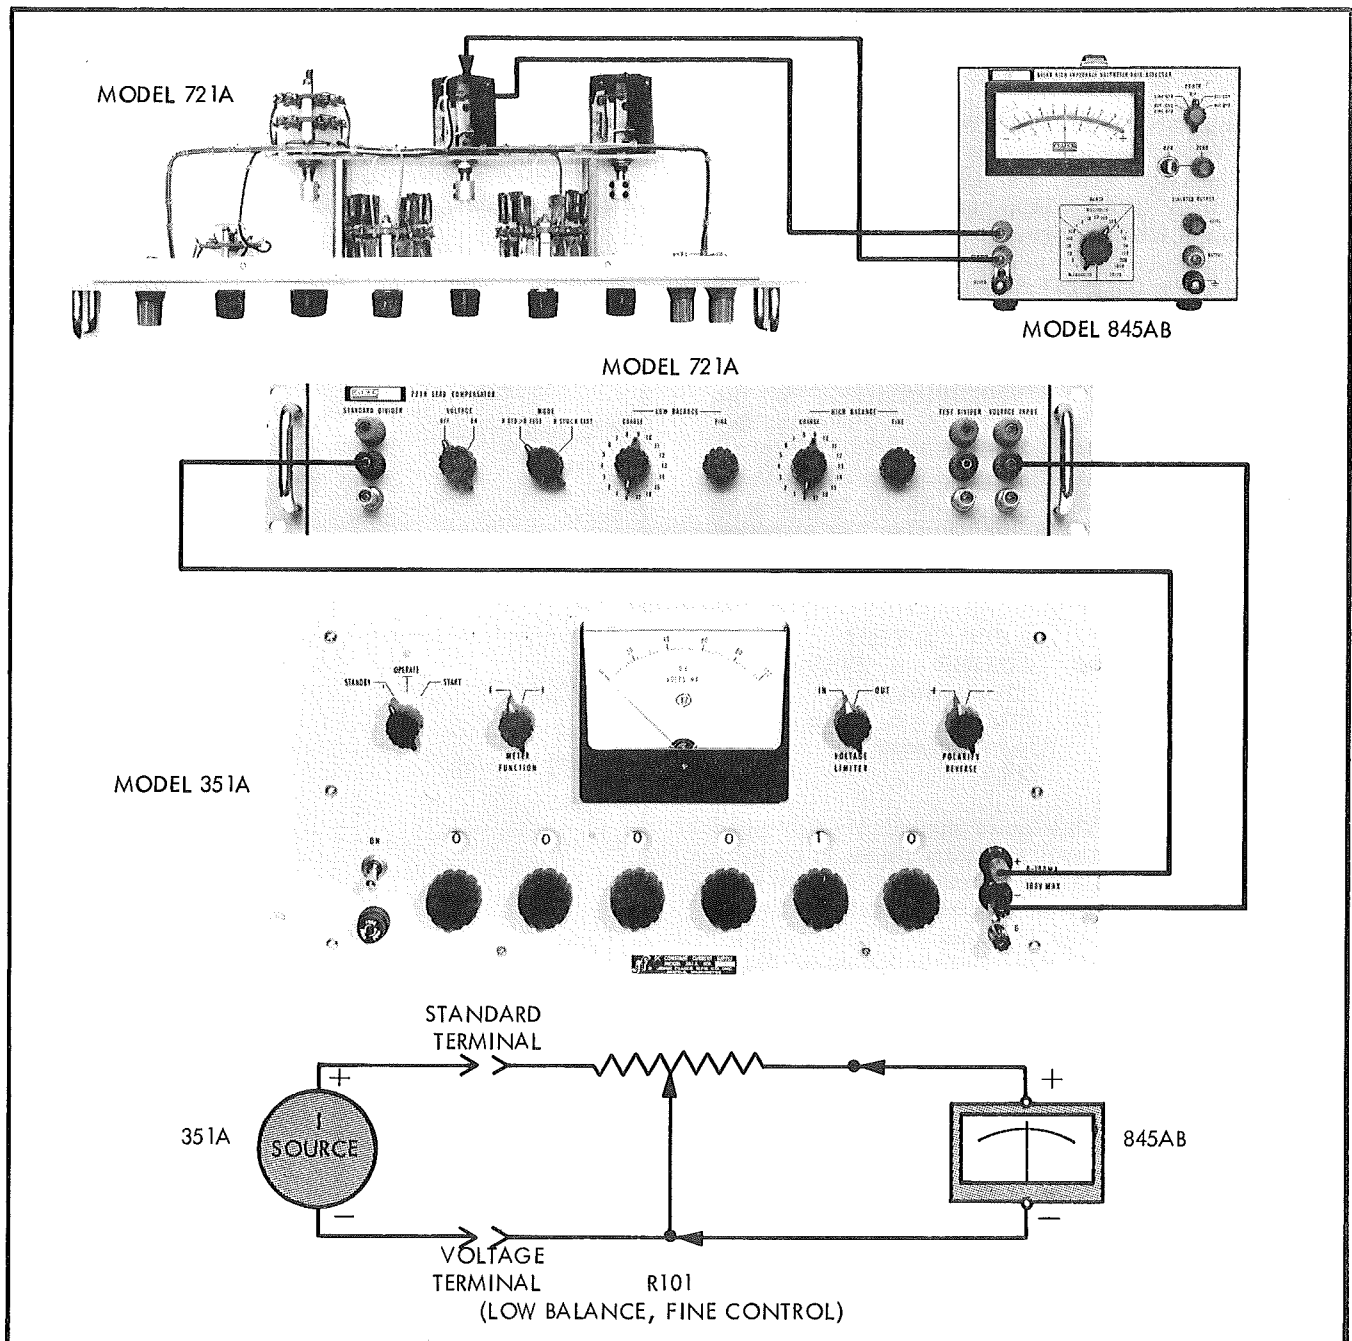

Figure 4-3. LOW BALANCE CONTACT RESISTANCE
- e. Place the OPERATE switch of the Model 351A to STANDBY. Connect the equipment as illustrated in Figure 4-3.